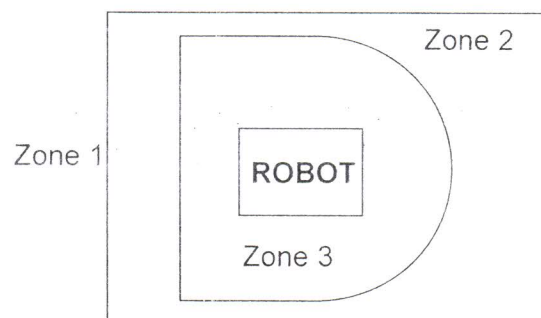

Figure 1: Safety zones
- (c) Describe the **three** (3) laws of Robotics that was introduced by Asimov. (6 marks)
- (d) Discuss **two** (2) reasons why we use robots rather than using human in our industry. (2 marks)
- (e) Give **three** (3) benefits of industrial robotics application. (3 marks)
- (f) A strategy for limiting access to the areas is illustrated in **Figure 1**. The work cell is divided into zones 1 to 3. Define these 3 zones. (6 marks)